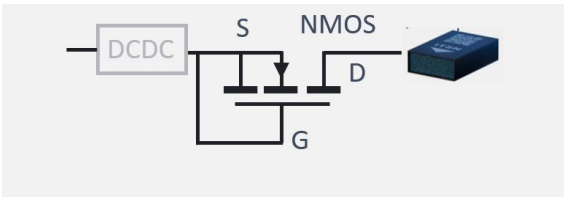

Figure 18: Reverse current protection with NMOS
- An NMOS transistor connected as a diode as shown in figure 18.